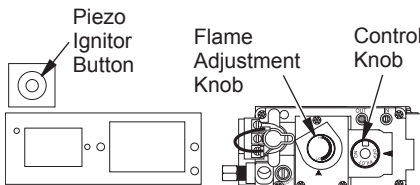

Figure 39 - Control Knob and Ignitor Button Location (Shown as Supplied - No Control Options)
- Press in and turn control knob clockwise  to the OFF position (see Figure 39, page 24).
- Wait five (5) minutes to clear out any gas. Then smell for gas, including near the floor. If you smell gas, **STOP!** Follow "B" in the safety information, column 1. If you don't smell gas, go to the next step.
- Press in and turn control knob counterclockwise ↶ to the PILOT position. Press in control knob for five (5) seconds (see Figure 39).